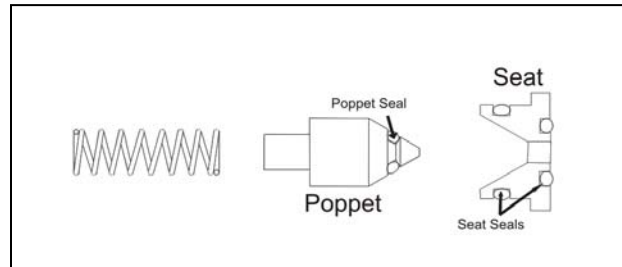

Figure 8
- Replace the seal on the poppet (see Figure 8).